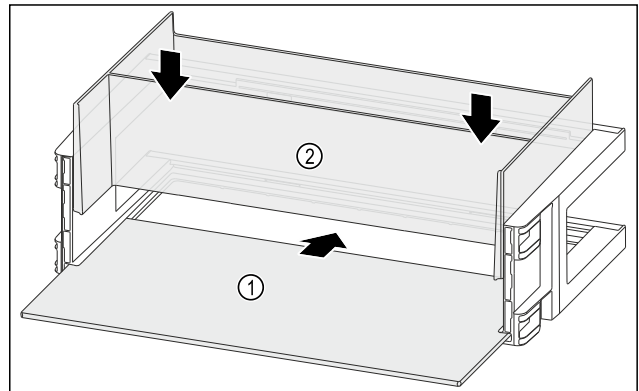

Fig. 151
- Push the shelf Fig. 151 (1) into the side recesses.
- Insert the organizer Fig. 151 (2).